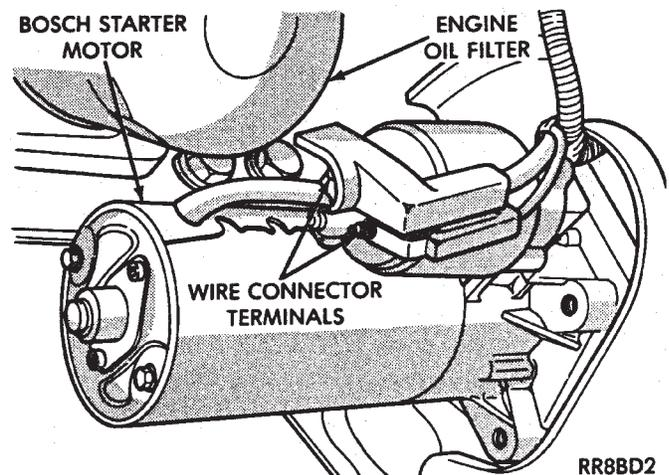
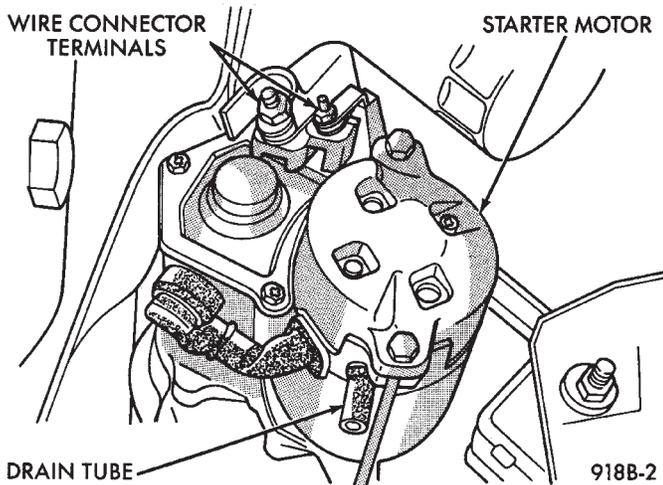

Fig. 5 Wire Terminal Connections—Bosch Starter
Fig. 6 Wire Terminal Connections—3.0L Engine—Nippondenso Starter
(4) Remove the two wire connector terminal nuts and remove wiring connector (Bosch, Fig. 5) (Nippondenso, Fig. 6 or 7).